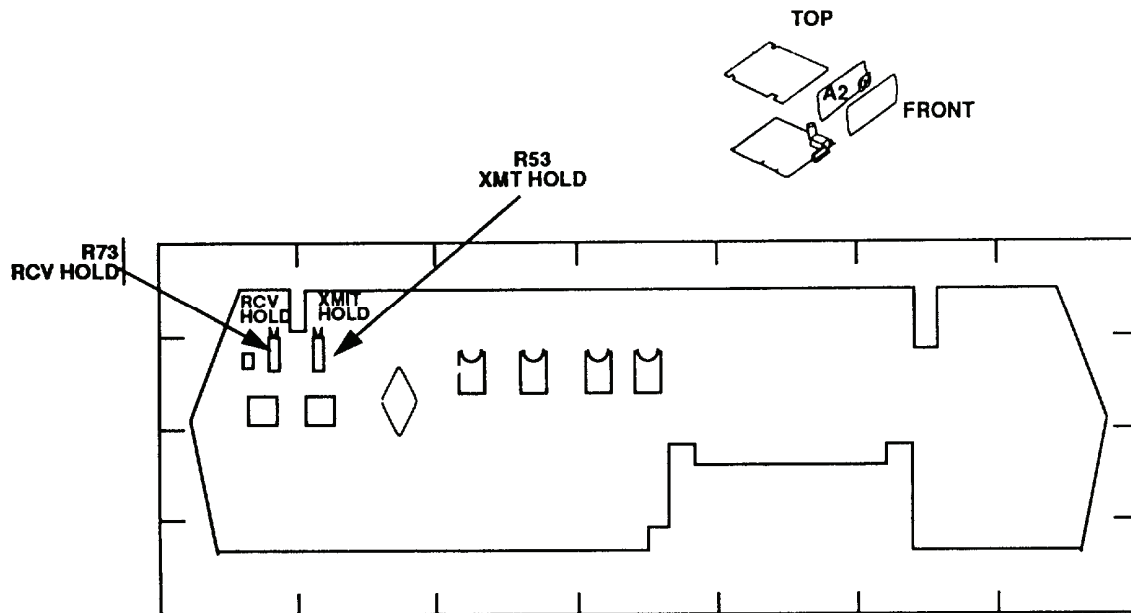

Figure 3. A2 board - adjustment locations.
- (1) Set calibrator for a 6.9 V dc output and resistance standard dials for 0.0 Ω .
- (2) Position controls as listed in (a) through (c) below:
- (3) Adjust R53 XMT HOLD (fig. 3) until multimeter indicates 24 mA (R).
- (4) Set calibrator for a -6.9 V dc output. Multimeter indication will not change.
- (5) Set calibrator for a 6.9 V dc output.
- (6) Press **REV** pushbutton.
- (7) Adjust R73 RCV HOLD (fig. 3) until multimeter indicates 24 mA (R).
- (8) Repeat (4) above.
- (9) Adjust calibrator for a 50 V dc output. Multimeter will indicate less than 26 mA.
- (10) Press **NOR** pushbutton. Multimeter will indicate less than 26 mA.